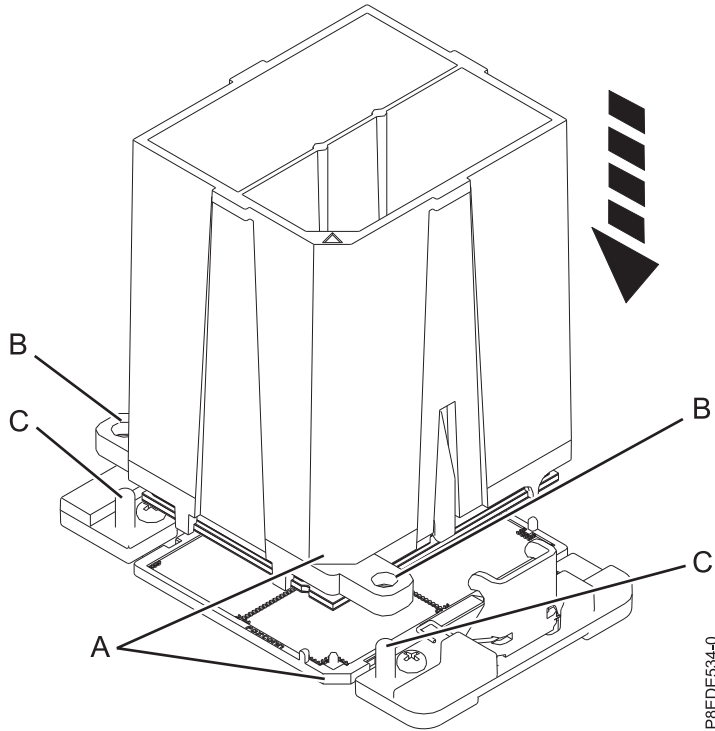

Figure 38. Installing the system processor module
- a. Lower the tool and system processor module onto the socket. Align the beveled corner (**A**) of the tool with the beveled corner on the socket. Ensure that the two guide pins (**C**) are inserted into the alignment holes (**B**) on each side of the tool. Use care to lower the tool evenly without tilting the tool. See Figure 38 on page 36.